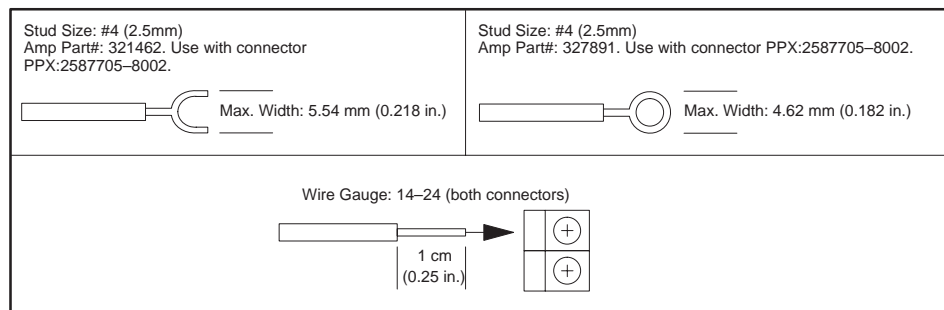

Figure 2-3 Wire Gauge and Stud Sizes
1. Strip back the insulation on the wires 0.25" or 1.0 cm. Use a 14–24 AWG or 0.18–1.5 mm² wire, either stranded or solid-type. You may attach a spade or a ring lug (amp 34141) to the end of the wire if allowed by the connector type. Refer to Figure 2-3.